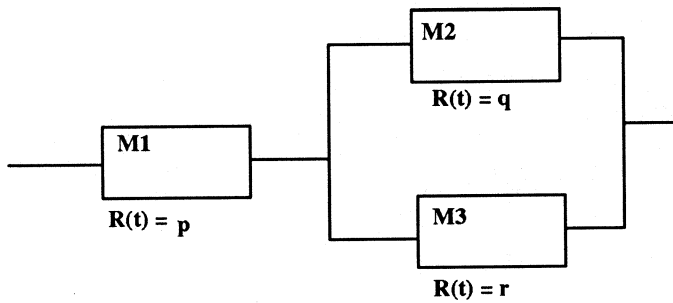

Figure 2: Series and Parallel Network
- b Calculate the reliability of the composite network shown in Figure 2.